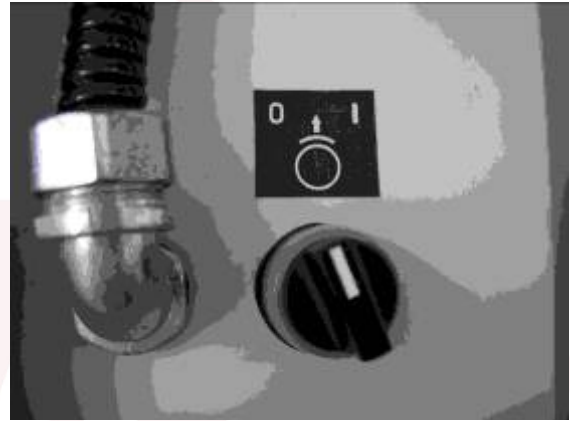

Figure 4
9. Test the rotation of the cutter head. Turn on the main power switch (see Figure 2) and then the main motor switch (figure 4). The pulley on the main motor (on the side near the motor) should rotate clockwise. If it rotates counter clockwise, stop the machine with the red stop button (Figure 4).